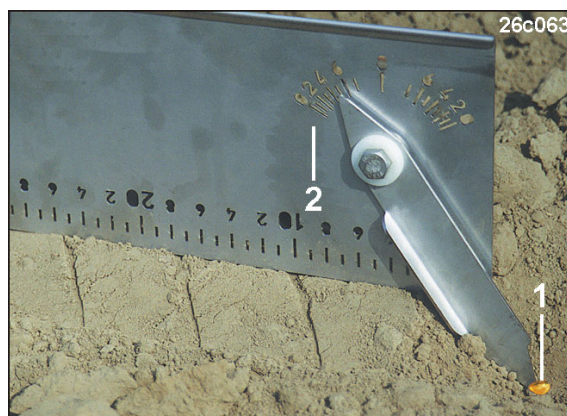

Fig. 175
3. Place the multi-placement tester (Fig. 175) horizontally on the ground
4. Place the indicator (Fig. 175/1) on the seed grain and read off the placement depth from the scale (Fig. 175/2).